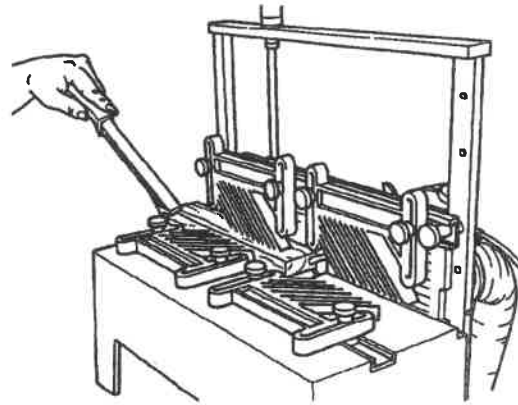
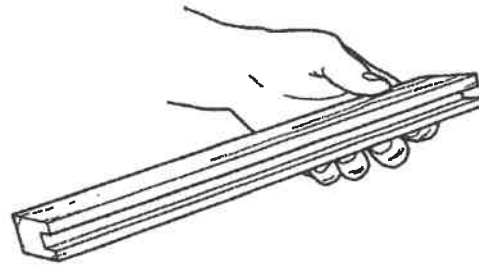

Fig. C-18
Fig. C-19
3. Install the optional feather board kit and *three additional feather guards* on the Joint-Matic. See fig. C-18.
7. Use a push stick and make the groove cut the entire length of workpiece "B". See Fig. C-18. Fig. C-19 shows the finished groove cut.